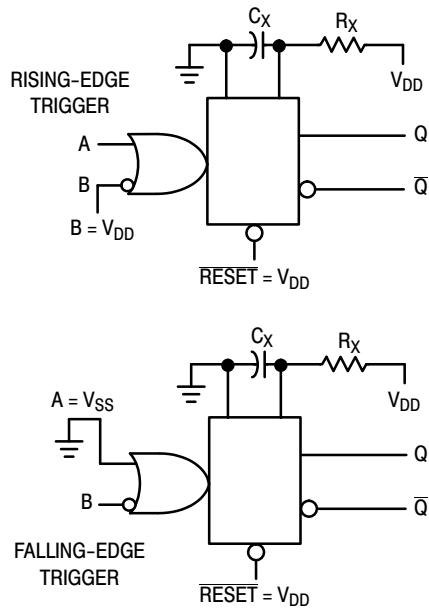

**Figure 11. Use of a Diode to Limit Power Down Current Surge**
5. If CX > 15 µF, use discharge protection diode per Fig. 11.
When a more rapid decrease of  $V_{DD}$  to zero volts occurs, the MC14538B can sustain damage. To avoid this possibility use an external clamping diode,  $D_X$ , connected as shown in Fig. 11.